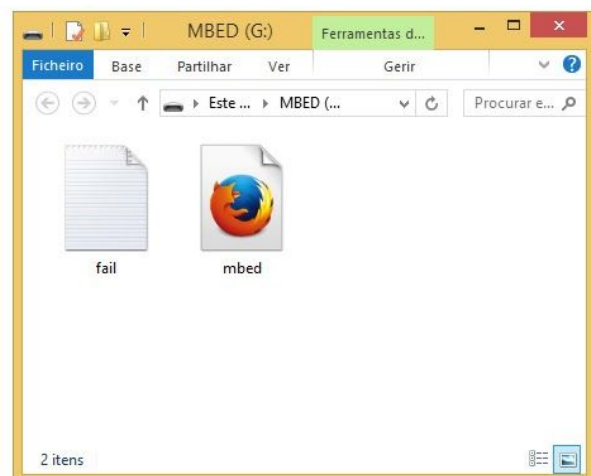

Figure 14. MBED window on programming fail and programming success situations.
- MBED disk window will close and re-open automatically. If programming fails, it will appear on the MBED disk a text file named fail.txt (see Figure 14).